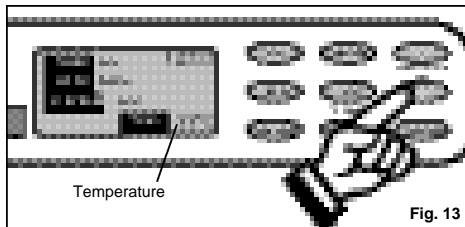

Fig. 13
- 4) Press the appropriate  $\Delta$  or  $\nabla$  key to select a suitable temperature setting. The temperature selected will be indicated in the **LCD (Liquid Crystal Display)** window. Temperature settings are adjustable between 17°C (63°F) to 30°C (88°F). *Fig. 13.*